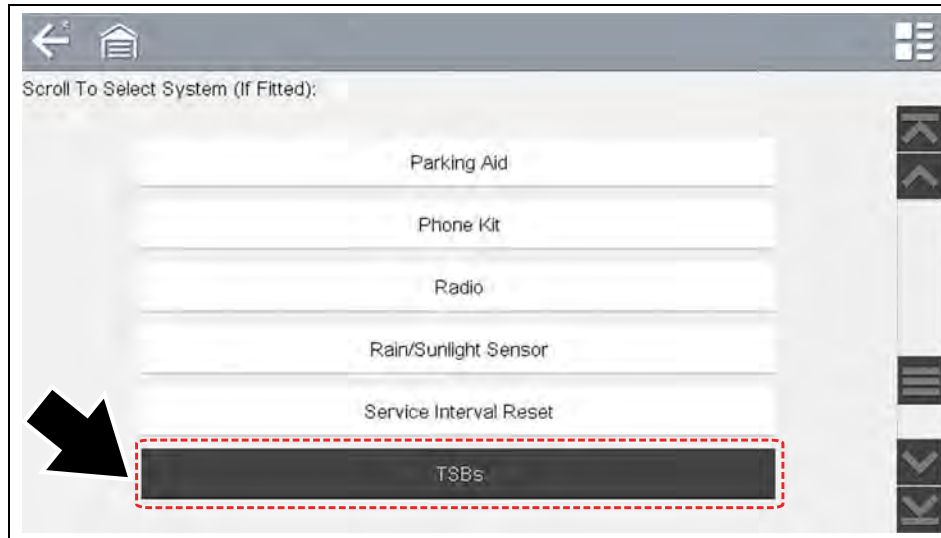

Figure 8-4 Scanner System Menu - TSBs Option
- From within a current Scanner session select **TSBs** from the System menu (Figure 8-4).